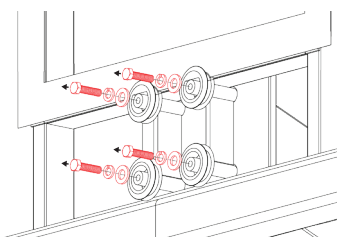

Figure 15
**STEP 9:** Remove hardware from the rim connection tubes on the Extension Arm. See Figure 15.